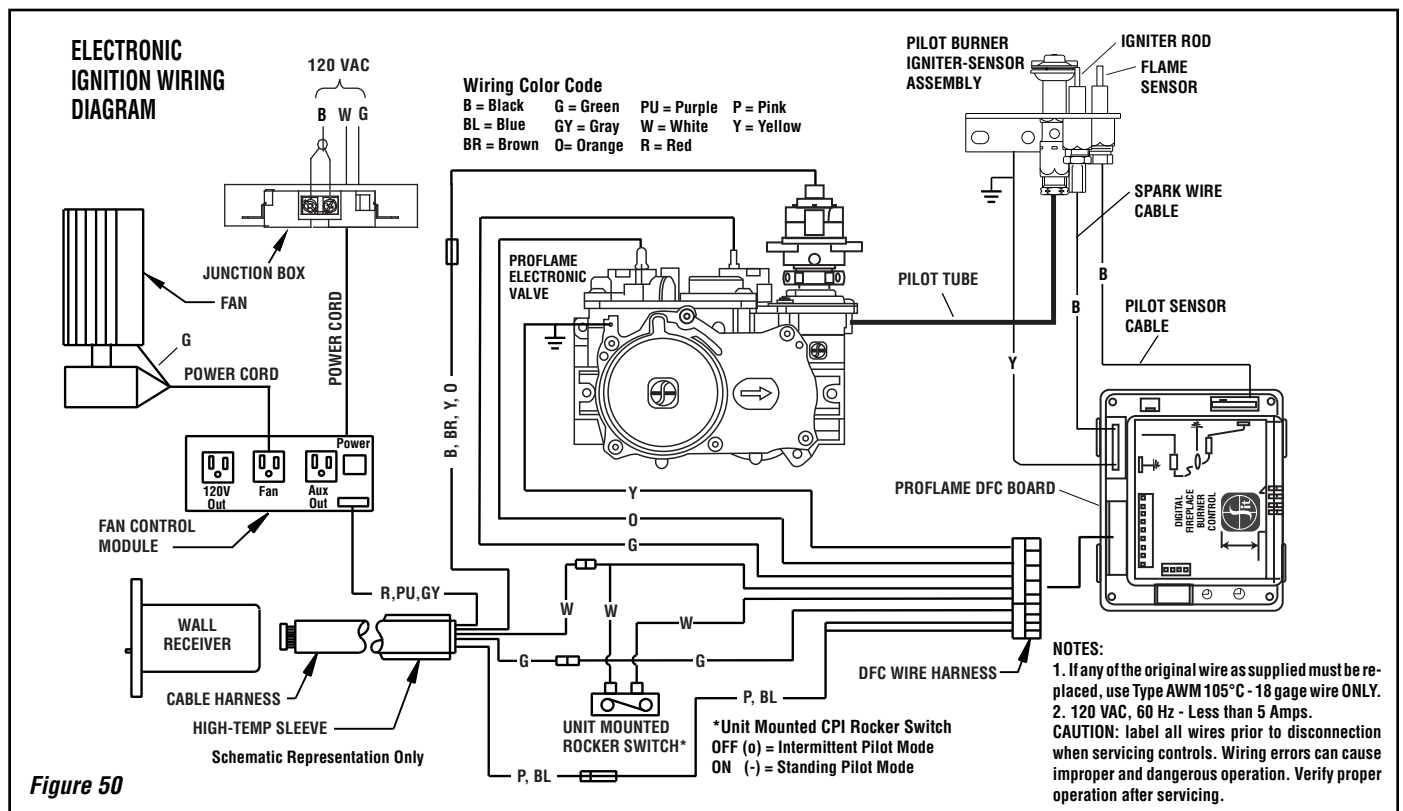

Figure 50
Electronic Wiring (see Figures 50 and 51)
4. Connect the black power supply wire to the lower outlet's red and black pigtail leads and the white power supply wire to the common terminal of the outlet as shown in Figures 50 and 51.
Place the 3 position slider switch on the wall receiver in the "Remote" position (see **Figure 50 and Page 35**). Using the end of a paper clip, or other similar object, insert the end of the paper clip into the hole marked "PRG" on the Receiver front cover. The Receiver will "beep" three (3) times to indicate that it is ready to synchronize with a Transmitter.